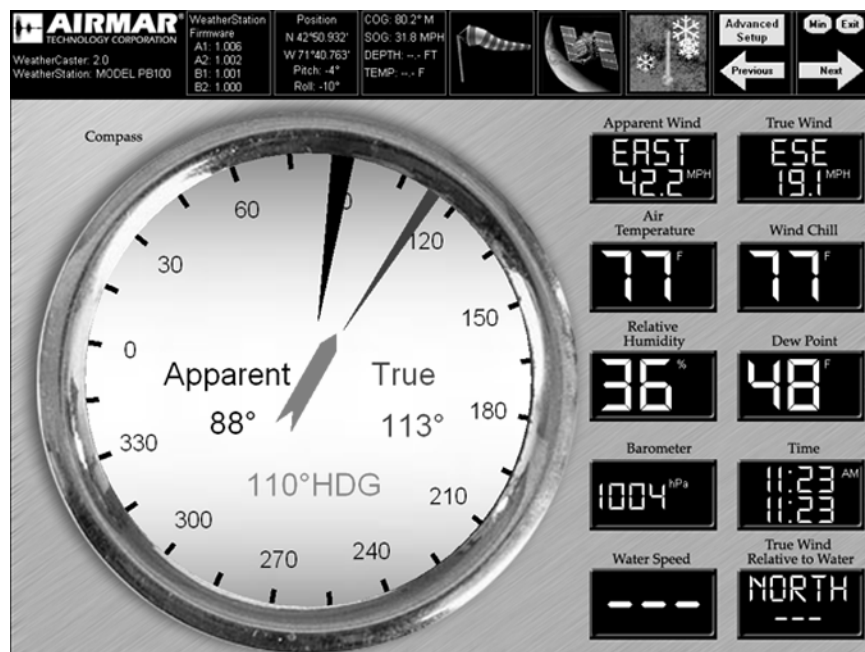

Figure 44. Large Compass and Digital Readout screen
- Large Compass and Digital Readout Screen—This screen displays a large compass on the left and weather readings in digital format on the right (see Figure 44).
Click the Next arrow at the top right of the display to go to the Large Compass and Digital Display Screen. This screen shows a large compass on the left and readings in digital format on the right (see Figure 44). This screen does *not* display historical data.
The Compass displays the true and the apparent wind direction along with the vessel heading (see Figure 44).